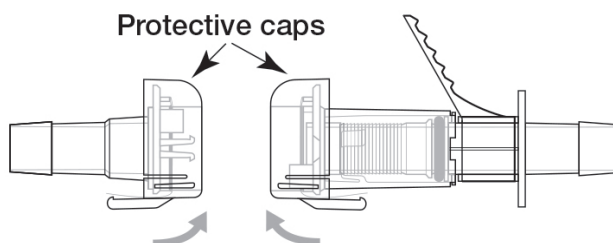

Figure 5.36. Removing protective caps.
- Lift and pull off the protective caps to remove the caps from the Kleenpak connectors (Figure 5.36).